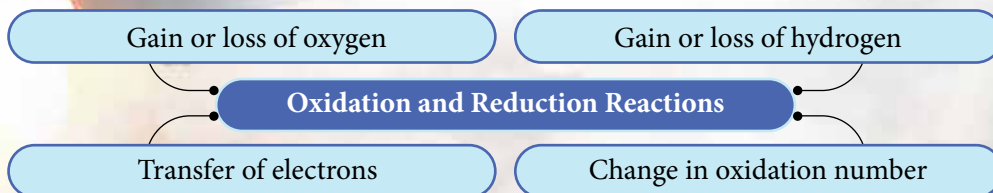

Figure 1.1 Redox reactions
- Initially, a redox reaction refers to a reaction involving oxygen. However, there are various types of redox reactions that can be defined differently as shown in Figure 1.1.